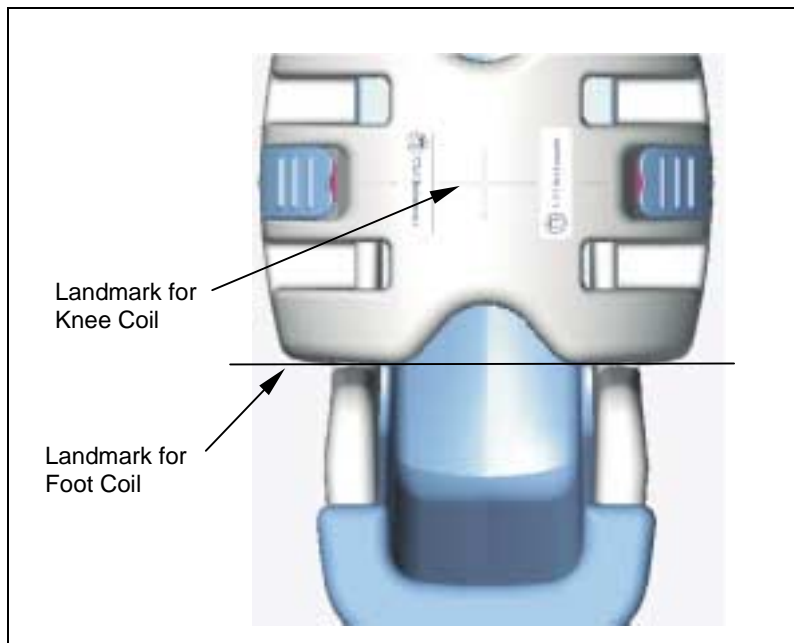

Figure 8: Coil landmarks.
3. At the magnet, press the "**Alignment Light**" button to turn on the light. Move the cradle to align the coil to the alignment lights as shown in *Figure 8*. Press the "**Landmark**" button to landmark the alignment.